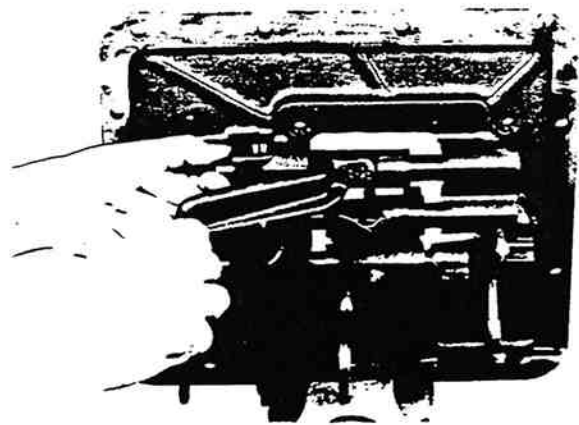

Figure 13-174. 4th-5th Shift Bar Installation.
8. Install the 4th-5th speed shifting bar in upper bore in housing installing shift yoke on bar, fork to the front (figure 13-174).